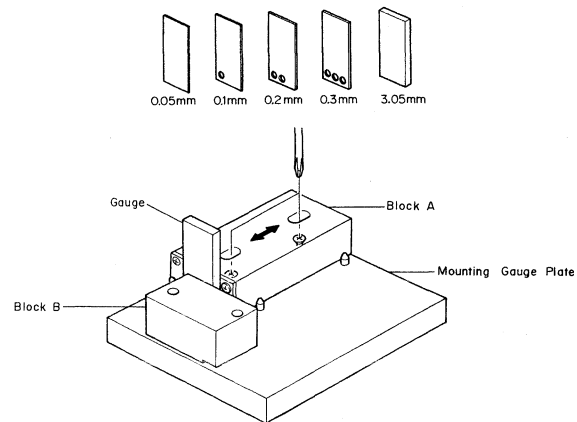
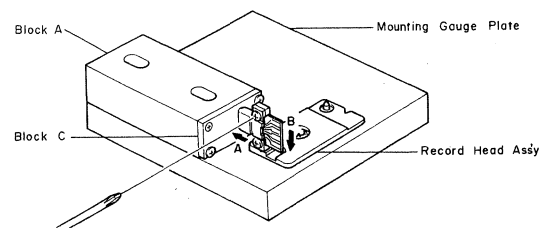

Fig. 2.17
Fig. 2.18
Refer to Figs. 2.17 and 2.18.
- (1) Check the accuracy of the record head stroke.
- (2) Remove Head Mount Base Ass'y.
- (3) Remove the record head assembly.
- (4) Adjustment of Record Head Mounting Gauge M-9048 (DA0-9048A)
- (c) As shown in Fig. 2.17, hold the Gauges (3.05 mm and 0.1 mm thickness) between the Block A and Block B, and fix the Block A with screws, pushing the Block A to the 2 guide pins.
- (5) Remove the Block B from the Mounting Gauge Plate.
- (6) As shown in Fig. 2.18, mount the R-8L record head assembly onto the Mounting Gauge Plate, then check the location of the R-8L record head surface. (If record head touches the Block C, loosen 2 pcs. of screws that assemble record head and record head plate, then place the R-8L record head assembly onto the Plate.)
- (7) Remove the R-8L record head assembly from the Mounting Gauge Plate.
- (8) Readjustment of Record Head Mounting Gauge M-9048 (DA09048A)
- (c) As shown in Fig. 2.17, hold the Gauges (3.05 mm and either one of 0.05, 0.15, 0.2, 0.25, 0.3 or 0.35 mm thickness) between the Block A and Block B, and fix the Block A with screws, pushing the Block A to the 2 guide pins.
- (9) Remove the Block B from the Mounting Gauge Plate.
- (10) Mount the R-8L record head assembly onto the Mounting Gauge Plate.
- (11) As shown in Fig. 2.18, loosen 2 pcs. of screws that assemble record head and record head plate. As the location of the Block A is secured by the item (8)-(c), push the record head to the directions A and B, then tighten 2 pcs. of screws.
- (12) Check to insure freedom from gap between the Block C and record head surface, then tighten the 2 pcs. of screws on the record head assembly with lock tight paint.
- (13) Remove the R-8L record head assembly from the Mounting Gauge Plate.
- (14) Assemble the record head assembly to the head mount base assembly.
- (15) Assemble the head mount base assembly to the mechanism assembly.
- (16) Check the record head stroke.